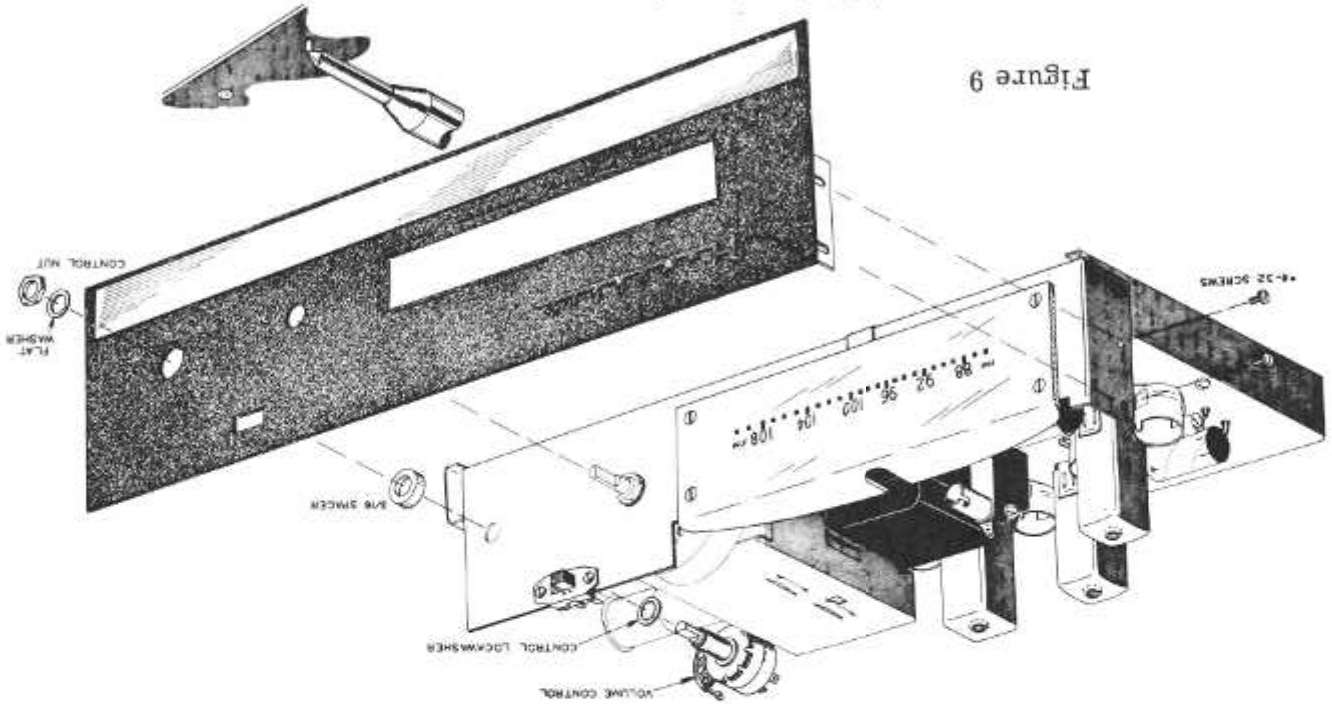

Figure 9
- () Refer to Figure 9 for mounting of the front panel.